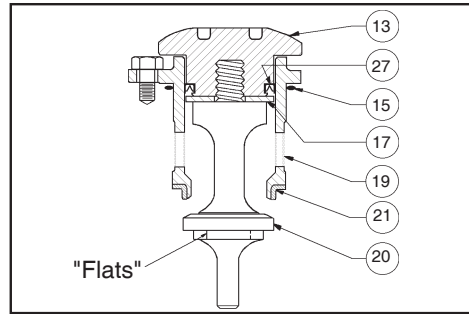

Figure 3: Assembled ITA,
- b. For a regulator with a metal diaphragm(s) (see figure 3); hold the lower part of the
3. Position piston-guide bearing (13) over and into upper end of cage (19) until the cap seal (27.1) edge touches the upper lip of the cage (19). While gently applying force to press the piston-guide bearing (13) into the cage (19), simultaneously use fingers to lightly press the u-cup seal (27.3) inwards into the groove of the piston-guide bearing (13) until the u-cup seal (27.3) “slips into” the cage (19). **DO NOT USE TOOLS, LUBRICANT, OR HEAVY FORCE TO ENGAGE THE U-CUP SEAL (27.3) INTO THE CAGE (19).**
4. Place properly oriented seat ring (21) onto its shoulder at the lower end of cage (19).
- a. Place new o-ring lower stem seal (14.3) into groove of valve plug (20).
- b. Insert valve plug (20) upwards through lower end of cage (19) and through the center hole in piston-guide bearing (13), also capturing camber adjusting washer (17.2), wiper washer (17.1) and wiper seal (16), if supplied. Hold plug (20) and cage (19) together.
- a. Insert valve plug (20) upwards through lower end of cage (19) and through the center hole of camber adjusting washer (17.2) or wiper washer (17.1) and wiper seal (16).
- b. Engage valve plug (20) with piston-guide bearing (13) threads and tighten manually as far as possible.
- c. Place ITA into a vise and grasp at a hub location on the valve plug (20) that is not in the “spindle” zone. (See Figure 3.)
- d. Using a special double-posted spanner wrench, (to order see NOTE in Section IX, Parts Ordering Information), tighten the piston-guide bearing (13) to the valve plug (20) with the following torque values. Do NOT allow valve plug (20) to rotate against seat ring (21) during tightening.